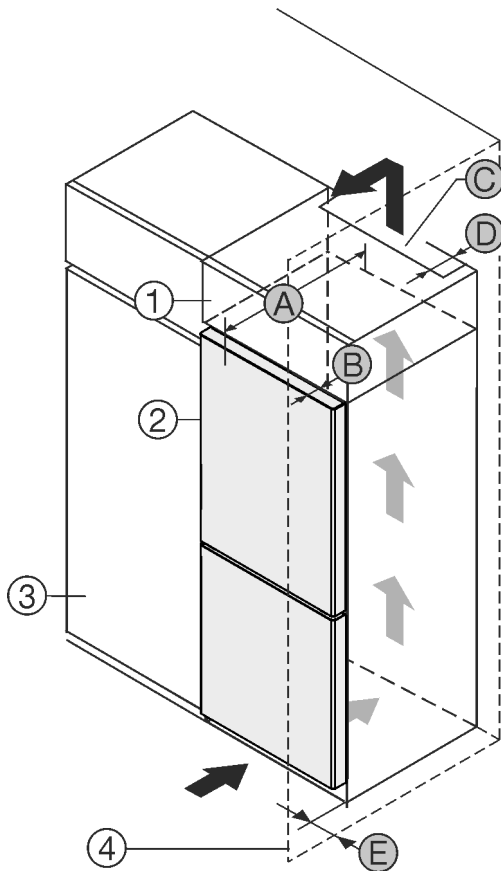

Fig. 1
- (1) Top cupboard
- (2) Appliance
- (3) Kitchen cabinet
- (4) Wall
- (A) Appliance depth
- (B) Door depth
- (C) Ventilation cross-section
- (D) Distance to the rear of the appliance
- (E) Distance to the side of the appliance
You can place the appliance directly beside the kitchen cabinet Fig. 1 (3).
There must be a ventilation shaft at the depth Fig. 1 (D) of the back of the top cupboard over the entire width of the top cupboard.
The cross section of the ventilation gap Fig. 1 (C) must be maintained below the ceiling.
If the appliance is set up with the hinges next to a wall Fig. 1 (4), the distance between the appliance and the wall must be at least 13 mm (1/2 in) .
In order to be able to fully open the door, the appliance must protrude by the depth of the door Fig. 1 (B) from the front of the kitchen cabinet. Regardless of the depth of the kitchen cabinets Fig. 1 (3) and use of wall spaces, the appliance can protrude further.